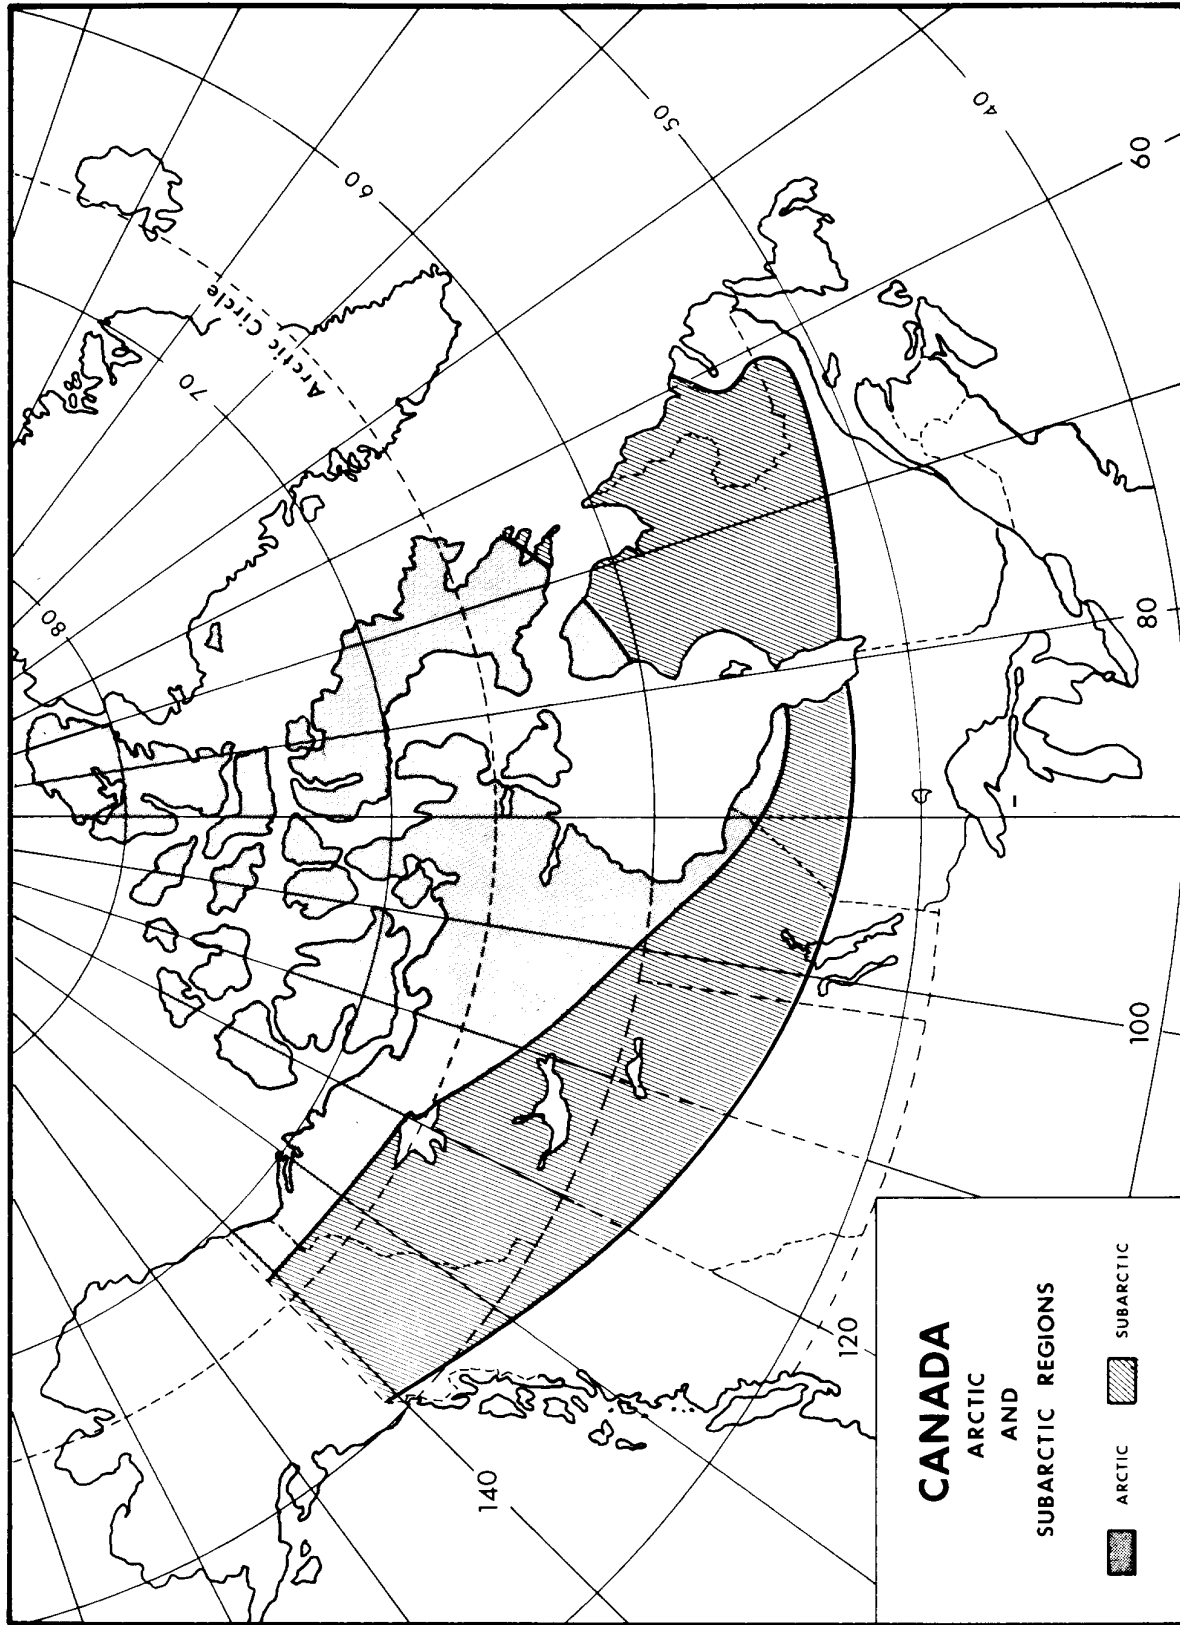

Figure 1-2 Arctic and Subarctic Regions
5. For military purposes, the arctic is defined as that region in which the average temperature in the warmest month is less than 10°C and the mean annual temperature is below 0°C. This definition describes the area north of the tree line, although small patches of trees may be found there as a result of drainage patterns and southern exposures. The northern limit of trees is generally restricted to 1° or 110 kilometres (km) (60 nautical miles) north of the tree line. See Figure 1-2 for map of arctic area.
8. The subarctic for military purposes may be defined as the vast area of climatic transition between the temperate regions and the arctic. The main difference between the arctic and the subarctic is that the subarctic is the home of the coniferous forest or tiaga land. See Figure 1-2.